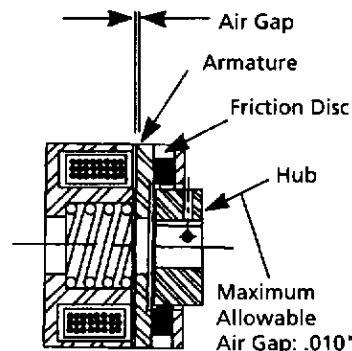

Figure 4 — Checking Brake Gap
- e. Check for worn brake disc by measuring the brake air gap with a feeler gauge. Brake gap larger than the allowable wear limit may cause chatter or failure to release (see Figure 4).
Check for worn brake disc by measuring the brake air gap with a feeler gauge (see Fig. 4). Brake gap larger than the allowable wear limit may cause chatter or failure to release.
3. Check for worn brake disc by measuring the brake air gap with a feeler gauge (See Figure 4). Brake gap larger than the allowable wear limit may cause chatter or failure to release.